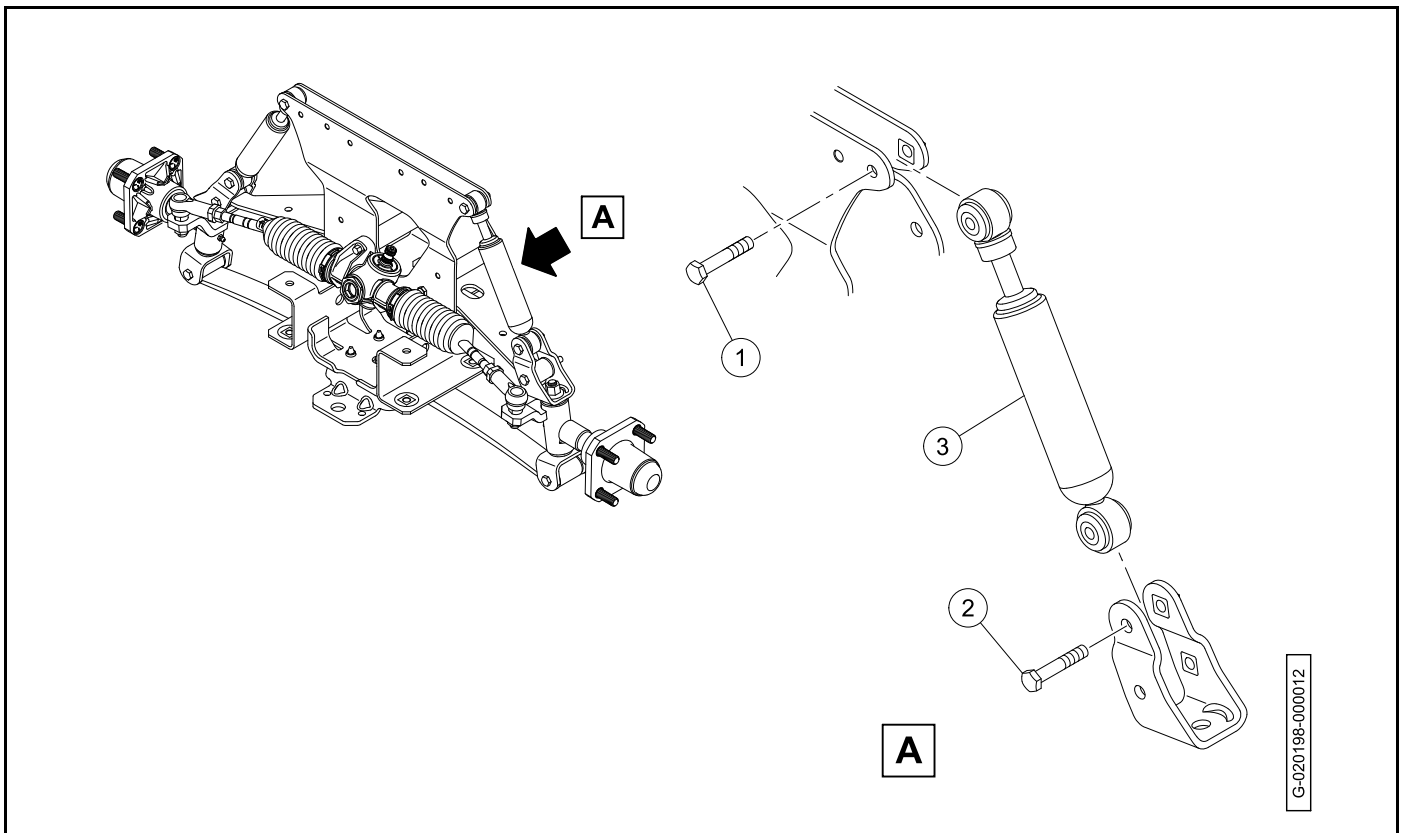

Figure 7-25
3. Remove the upper bolt (1) (Figure 7-25).
1. Make sure that the front shock absorbers (3) have the same part number (**Figure 7-25**).